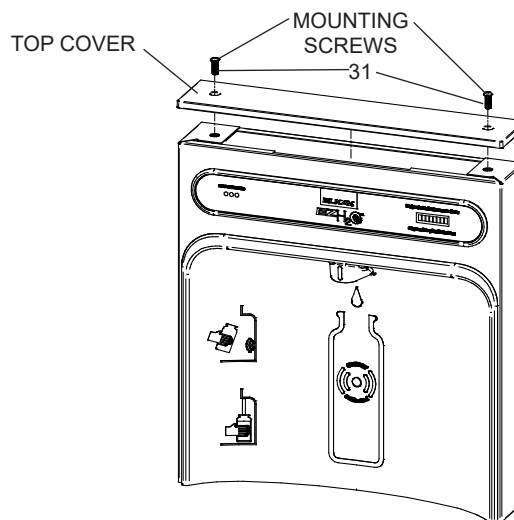

Fig. 4
- 1) **Remove two (2) mounting screws** with 5/32" Allen wrench holding top cover to Bottle Filler (See Fig. 4 Pg 4). Remove top cover. Note do not discard mounting screws, they will be needed to reinstall top cover.
- 11) **Once Bottle Filler is installed** on wall plate tabs, water line, wire(s) and power cord are installed properly, push top of Bottle Filler toward wall and line up top cover two (2) holes.
- 12) **Reinstall Top Cover** on Bottle Filler (See Fig. 4 Pg. 4) with two mounting screws from step 1 above. Caution, do not over tighten screws.